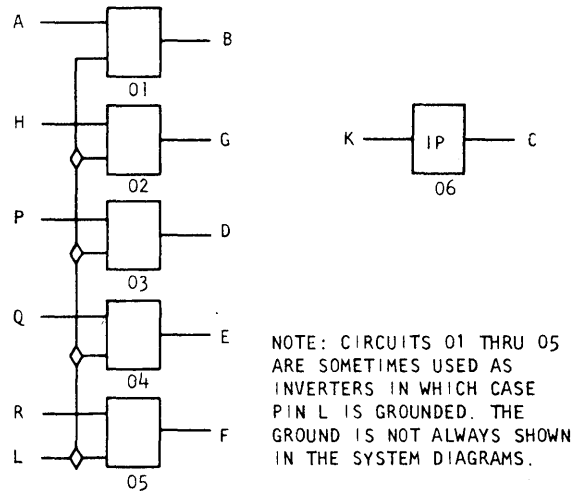

Figure 4-15. DEW MUP Card
This MUP card (Figure 4-15) contains five 2-way AND or OR circuits with pin L common to each of the five. These five circuits are similar to TAG and VE circuits. The card also contains a power inverter circuit (IP) that is similar to TFC, TAK, and VM circuits.